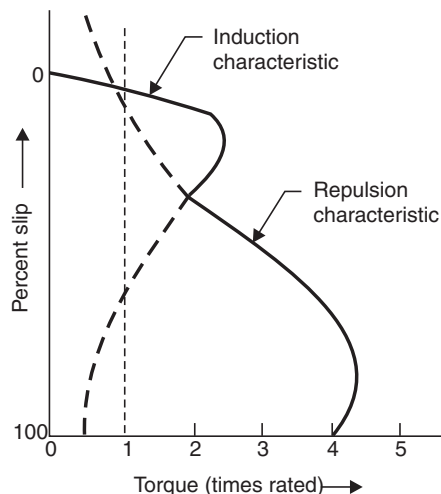

Fig. 16. Speed-torque characteristic of repulsion-start induction motor.
- As its name implies the repulsion-start induction motor starts as a repulsion motor with its brushes set to the maximum torque position. When the load has been accelerated to about 75 per cent of synchronous speed, a built in centrifugal device places a shorting ring in contact with the commutating bars, converting the armature to squirrel-cage rotor. The motor then runs as induction motor on its induction characteristic (Fig. 16).